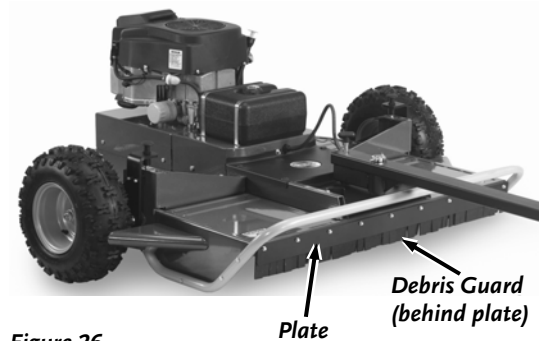

Figure 26
- When performing any adjustment or maintenance, you must first shut off the engine, wait five (5) minutes to allow parts to cool and disconnect the spark plug wire(s), keeping it away from the spark plug(s).
- If your Debris Guard (**Figure 26**) becomes worn or damaged it MUST be replaced.
1. Remove the nine Bolts and Lock Washers (**Figure 26**) with a 3/8" Wrench and remove the Plate and damaged Debris Guard.